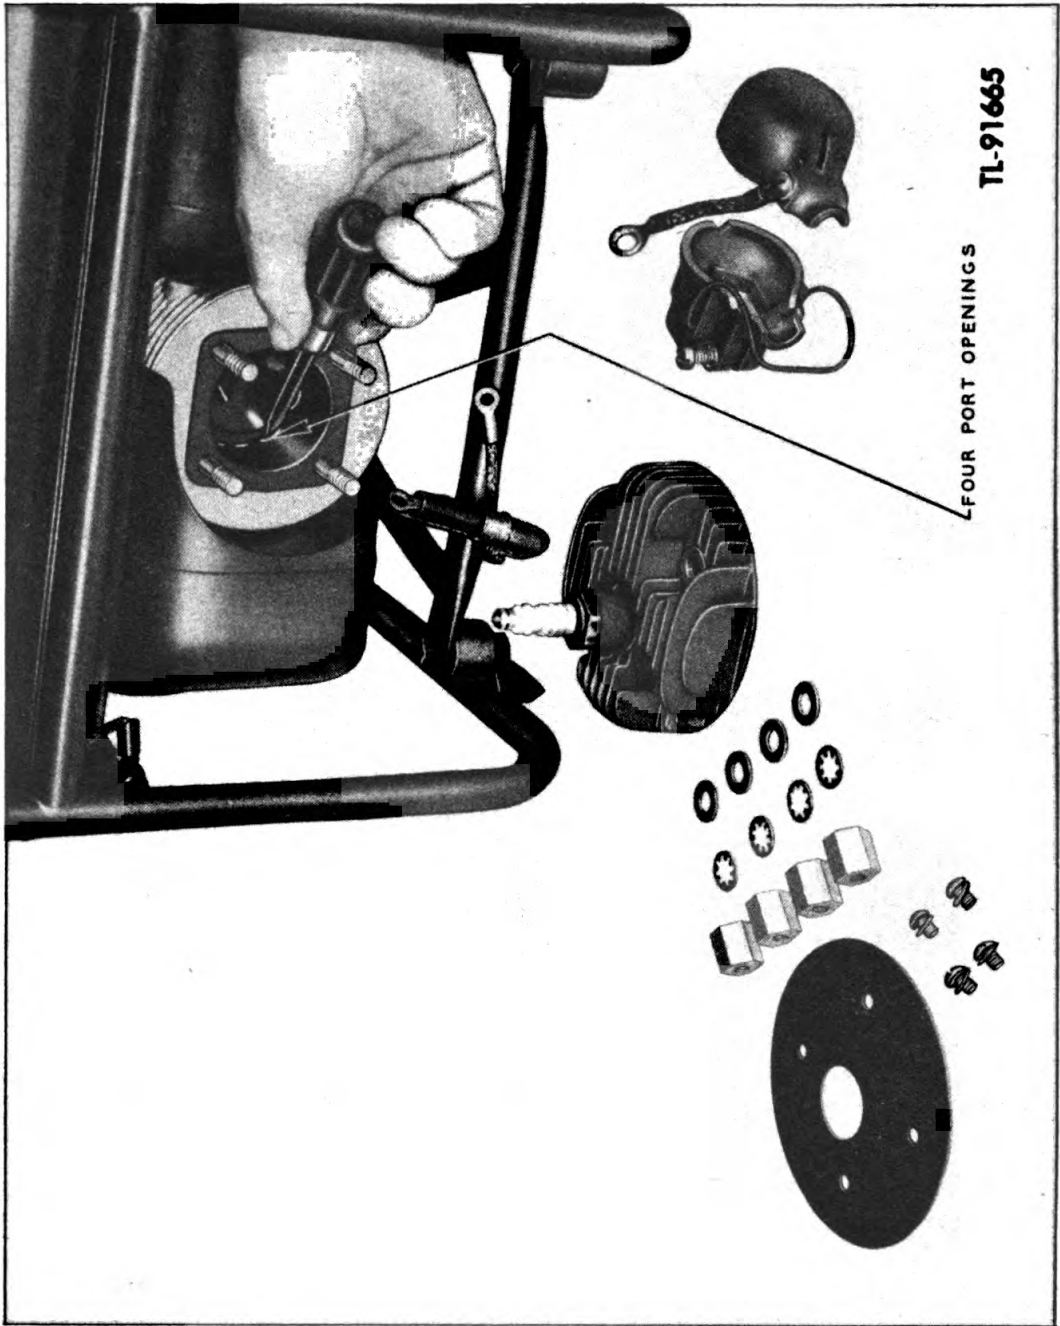

Figure 17. Carbon removal, intake ports
(2) Intake ports. Access to the intake port holes (fig. 17), for cleaning, is attained by removing the spark plug shield, spark plug, cylinder-head baffle, and cylinder head. Turn the engine over until the piston is on bottom dead center. The openings can then be cleaned out, using the same tool as for the exhaust ports. Be sure no chips remain in the cylinder, as they will foul up the spark plug in starting. To facilitate reaching the intake port openings, remove the muffler.